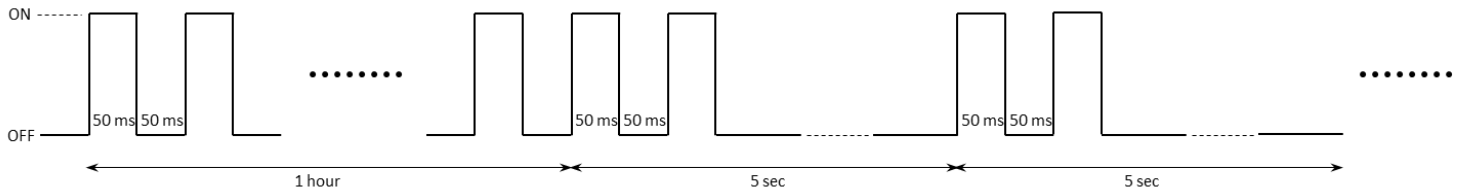

Figure 1-6: The GREEN pattern during join.
4. Both **GREEN** and **RED** are turned off when the POST and the subsequent LED flashing specified in item 3 end.
- a. **GREEN** is toggled ON and OFF every 50 ms for the first hour. But after that, it just flashes twice (ON time: 50 ms, OFF time: 50 ms) every 5 sec. This scheme has been shown in Figure 1-6.